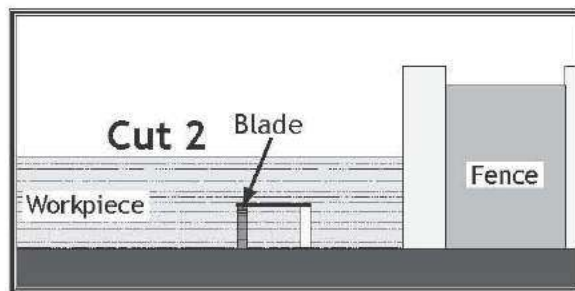

Figure 63. Second cut for a single-blade dado.
7. Repeat cutting operation on other side of dado, as shown in Figure 63.